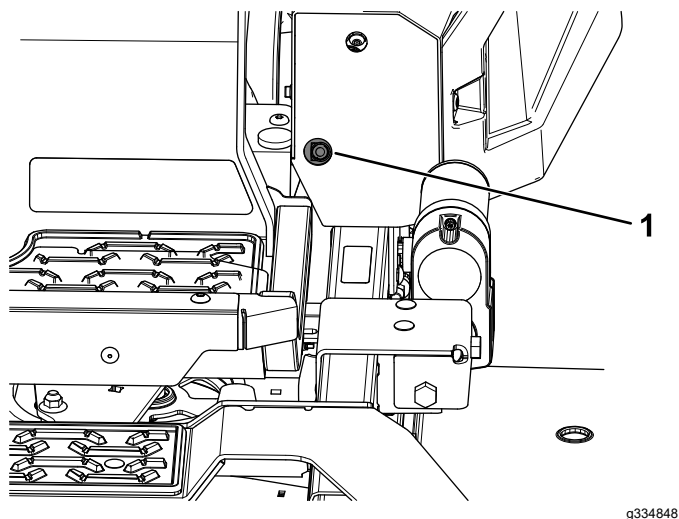
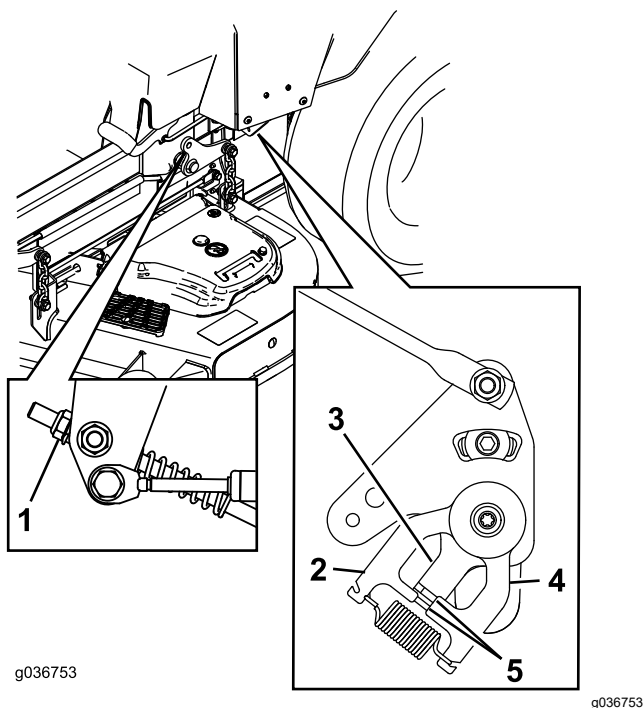

Figure 89
Figure 90
11. Adjust the pump-control-rod lengths by rotating the nut in the appropriate direction until the wheels slightly creep in reverse (Figure 89 and Figure 90).